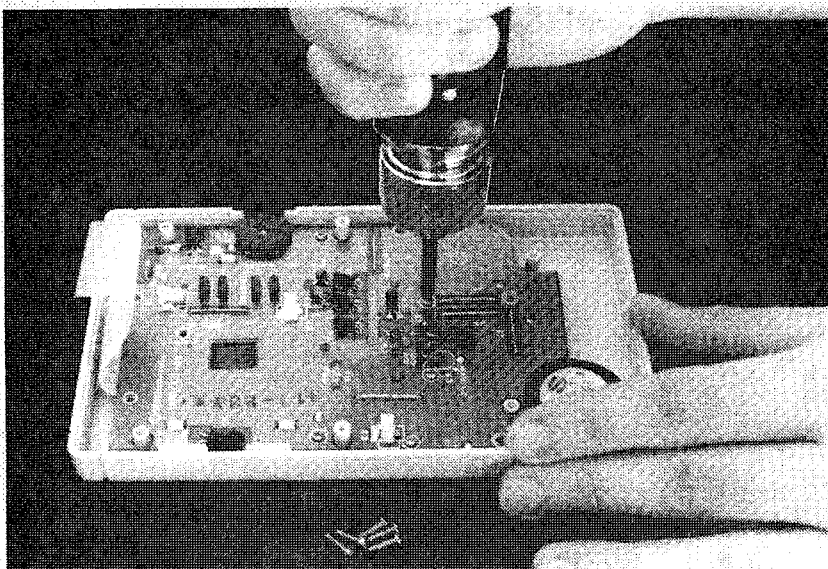
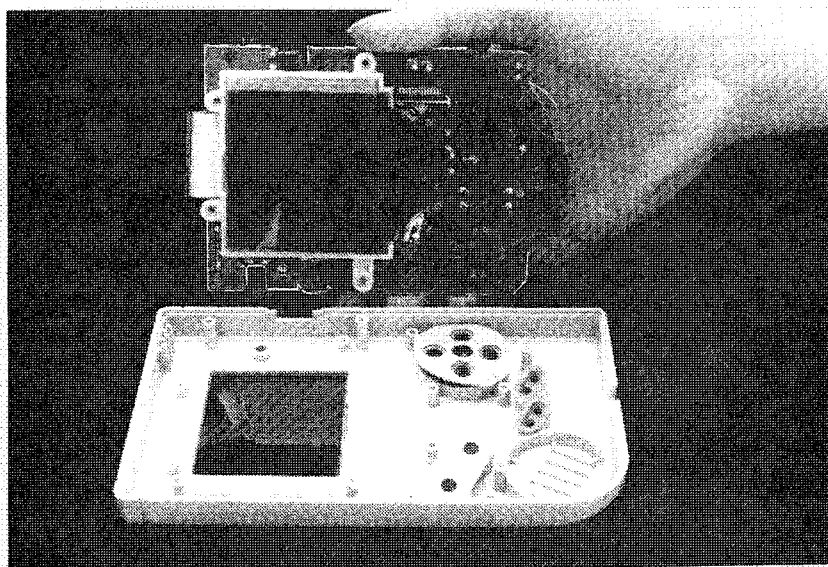
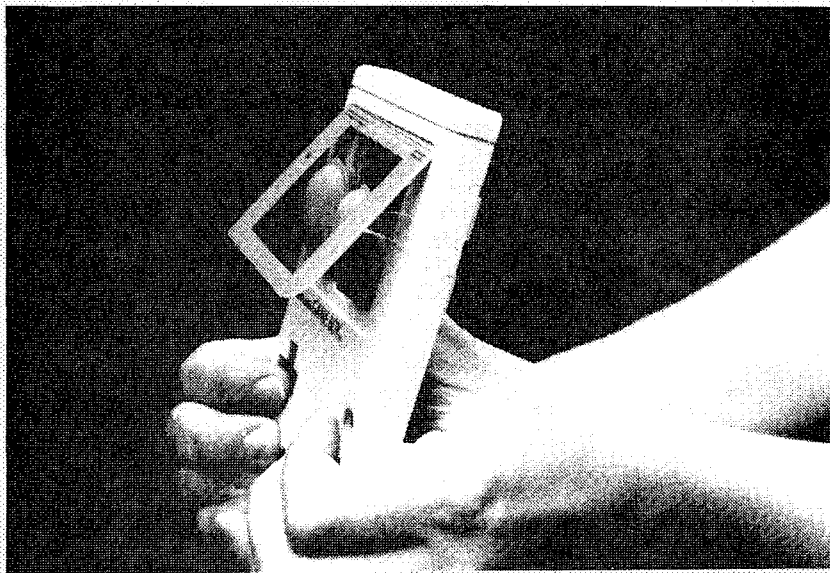

Fig. 5
Fig. 6
Fig. 7
LCD PCB Removal: Remove the ten gold screws (Fig. 5). The mounting holes for the screws are designated with a white circle around them. Lift out the LCD PCB to expose the controller contacts and buttons (Fig. 6). When removing the screen cover, face the front housing away from you. Place fingers on the front and push out the screen cover with your thumbs. The screen cover is held in place with an adhesive tape, so some force will need to be applied to remove it from the housing (Fig. 7).
3. Remove screen cover from housing by pushing it out from the inside of the housing (Fig. 7).